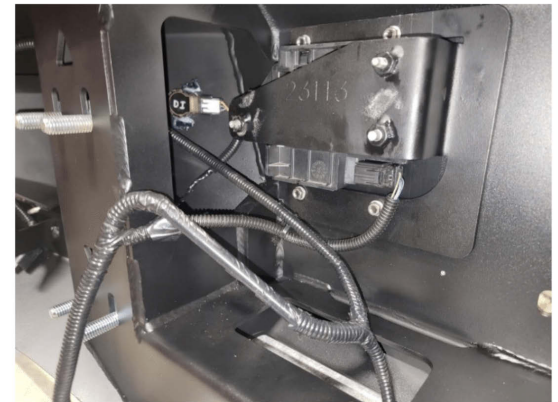

Figure 18.
18. Carefully place the sensors into the housings once the epoxy has dried and feed the wiring harness through the bumper making sure to have the plug on the driver side. Plug in the ACC sensor. Figure 18.